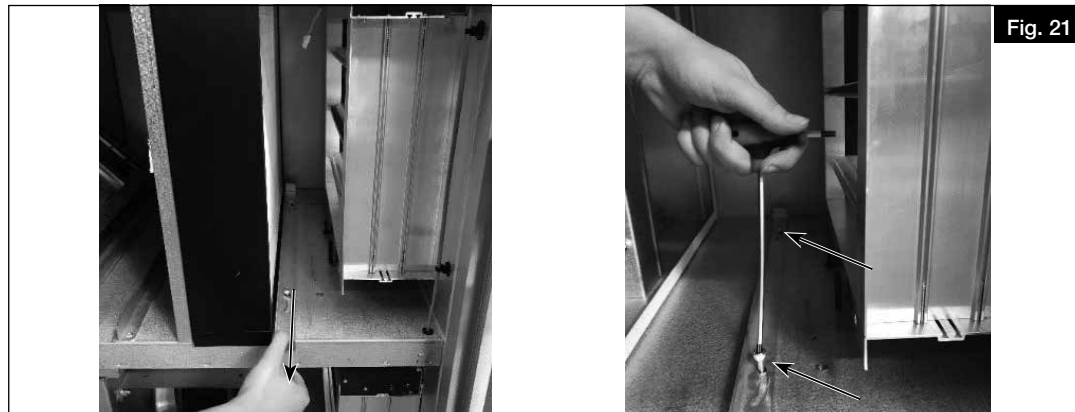

Fig. 21
1. Remove filter lock (see Fig. 21).